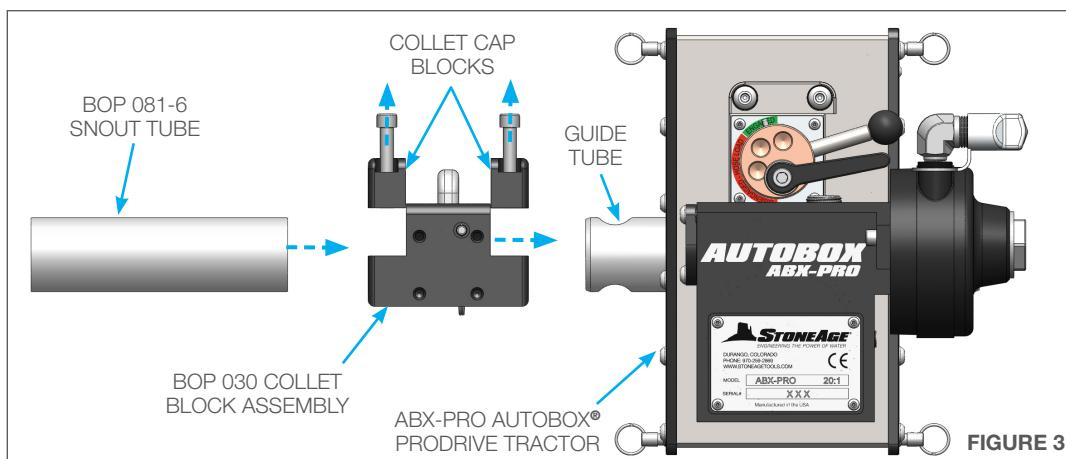

FIGURE 3
3. Loosen the screws on both collet cap blocks. Slide the BOP 030 Collet Block Assembly onto the guide tube on the ABX-PRO and tighten the two screws until secure. Slide the BOP 081-6 Snout Tube into the BOP 030 Collet Block Assembly. Push the Snout Tube in until it stops, then tighten the two until secure. (**Figure 3**)
3. Insert the BOP 058 Female Positioner Assembly into the Hinge Clamp Assembly then close the Hinge Clamp Assembly and tighten the Adjustable Handle. The Female Positioner height can be adjusted in the open or closed position and is designed to be adjustable based on the size of the pipe. (**Figure 3**)
3. Rotate the Cam Lever clockwise to the “**Engaged**” position to tighten the Idler Roller down onto the hose. There should be a slow slip on the hose. If the slip is too tight or loose, move the Eccentric Lever off until a slow slip is obtained. Once the slip level is achieved, push down on the Adjustable Handle to tighten the bushing assembly. (**Figure 3**)